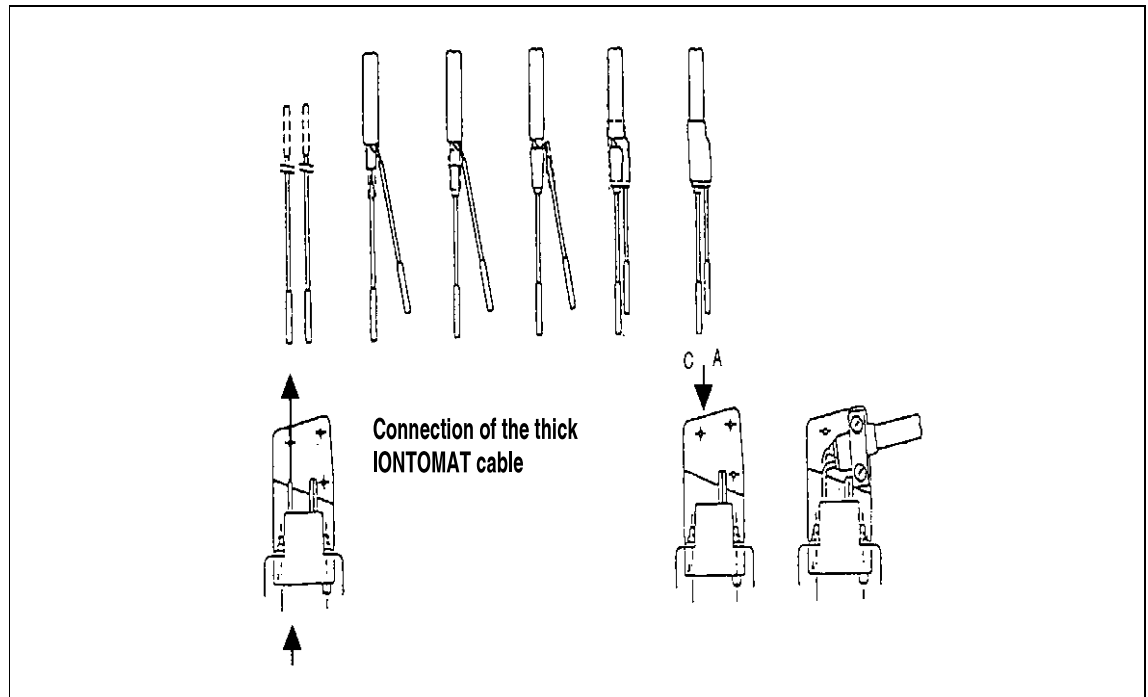

Fig. 16:
- Prepare the thick IONTOMAT cable according to (Fig. 16 / p. 29) for the connection; the materials required for this are in the accessories bag of the generator.